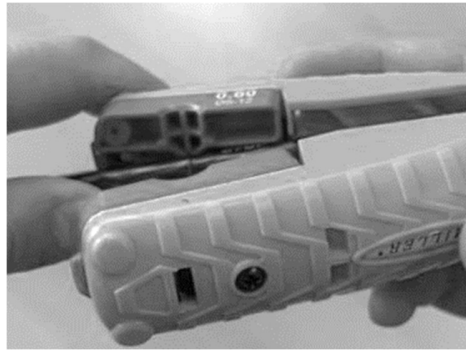

Figure 19 . Make a longitudinal cut between the two ring cuts
5.5 Use the Miller MB02 to make a longitudinal cut between the two ring cuts (Figure 19).